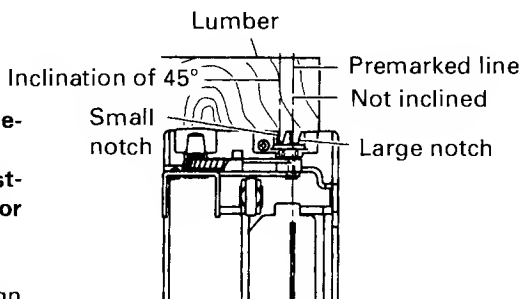
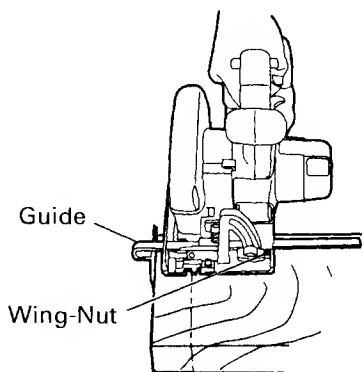
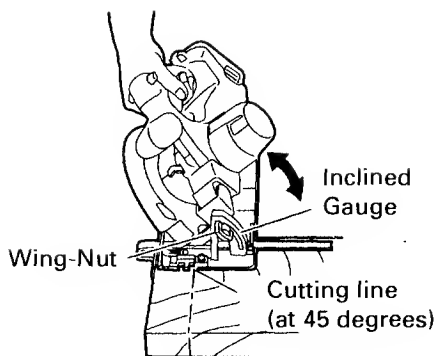

Fig. 13 (Top View)
Fig. 14 Not inclined
Fig. 15
- (1) Place the base on the material, then align the premarked line and the saw blade with the guide piece front scale section at the front of the base. (Fig. 13)
- (2) When the base is not inclined, use the large notch as the guide piece. (Fig. 13, Fig. 14)
If the base is inclined (45 degrees), use the small notch as the guide piece. (Fig. 13, Fig. 15)